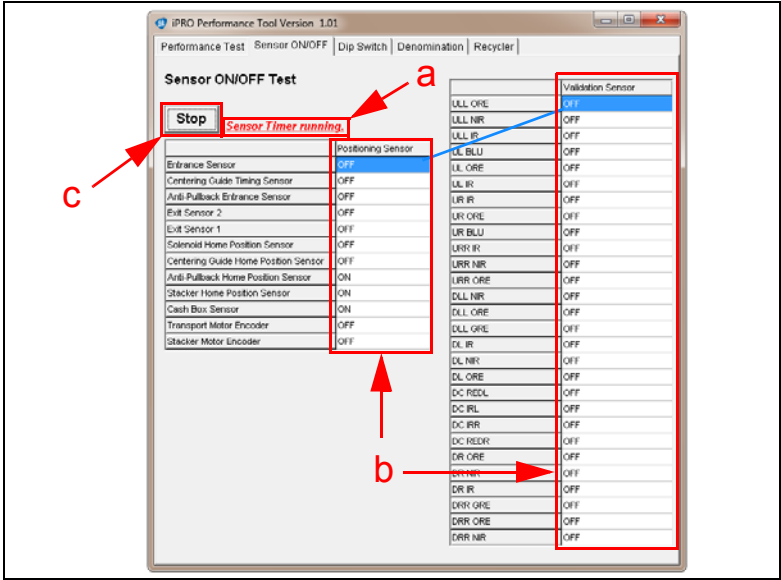

Figure 12 Sensor ON/OFF Test Selection
3. Verify that the “**Sensor Timer running**” Text Message (Figure 12 a) appears next to the “Stop”  Screen Button (Figure 12 c).
NOTE: The Sensor Detection condition displays as ON or OFF in the **Positioning Sensor** and **Validation Sensor** columns (**blue** highlighted fields) (Figure 12 b).
4. Open the iPRO Unit’s Top Cover and ensure that each Validation Sensor changes from OFF to ON when blocked (Figure 12 b).